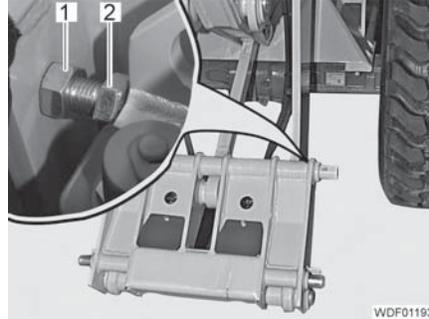

Fig. 41 Curling to load stop
- In each case, undo the 1 nut (Fig. 41,1).
- In each case, unscrew 1 stop screw (Fig. 41,2) until the screw head just touches the attachment.